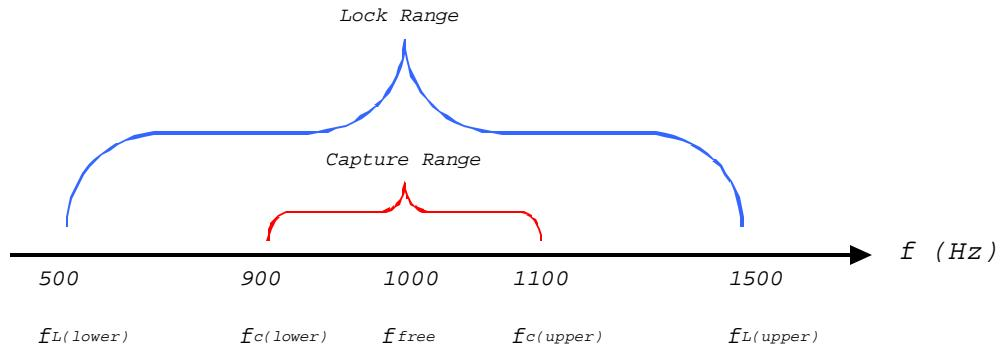

Figure 2: PLL Operating Regions
Figure 2 illustrates the relationship between free-running frequency, capture range, and lock range.
6. Slowly increase the frequency of the generator until the PLL just locks. (The two traces appear stable on the scope). A phase shift will be present between the VCO and reference frequency; this is OK. This frequency is the bottom of the capture range,  $F_C(lower)$ , as shown in Figure 2. Record it below.